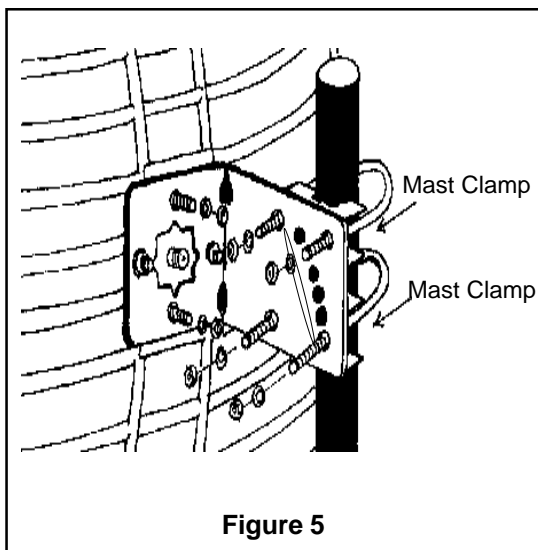
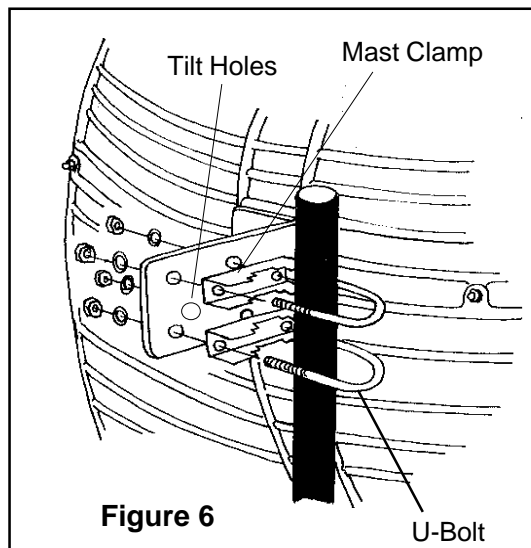

Figure 5
Figure 6
7. Place the 2 mast clamps on the 2 U-bolts. (See Figure 6). Fasten the U-bolts on the "L" bracket with the 4 lockwashers and nuts (See Figure 5).
**NOTE:** By eliminating 1 mast clamp and U-bolt, the optional fixed tilt holes provide elevation in 10° increments. (Not recommended under high wind conditions.) (See Figure 6.)
8. Run the download to the PS-0200 power supply connector labeled “To Ant”. (See Figure 5.)
9. Run a cable from the PS-0200 power supply connector labeled “To Set” to the set-top. (See Figure 5.)
4. Place the “L” bracket on the back of the antenna. Insert two carriage bolts from the front (figure 4) to attach. Secure on the back with the lock washers and nuts. (See Figure 5).
4. Place the mast clamp on the U-bolt. (See Figure 6.) Fasten the U-bolt on the "L" bracket with 2 lockwashers and nuts. (See Figure 5).
**Note:** Fixed tilt holes provide antenna elevation up to 60° in 10° increments. (See Figure 6).